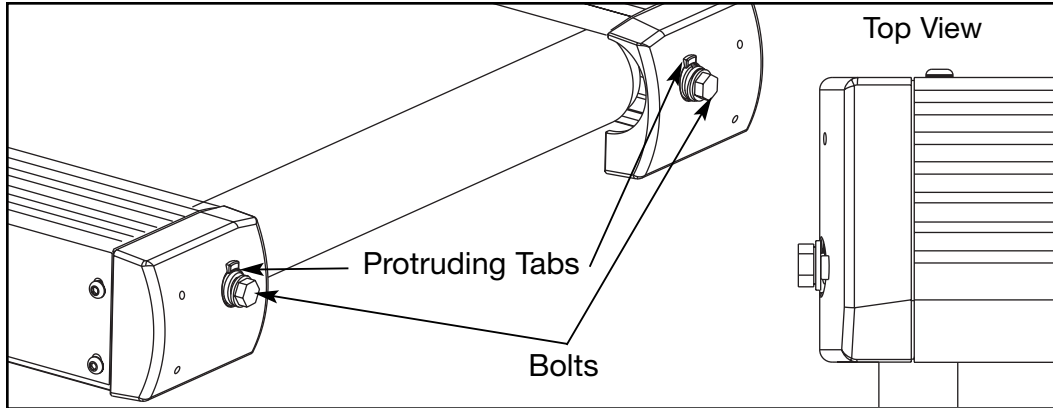

Figure 1
The running belt may become loose and slip on the drive roller with each foot plant. The 710T is equipped with visual indicators of belt tension. These are located at the rear of the treadmill where the two 3/4" bolts protrude from the plastic end caps. See Figure 1. These are designed to indicate if the running belt is at the proper tension to insure safe operation of the unit. If the belt has become loose, the silver colored washer located under the bolt will move out slightly from the protruding tab molded in the end cap. See the *Service Schedule* in this chapter to determine the minimum recommended checking of the belt tension.
- A.** Use a 3/4" wrench to turn each bolt clockwise until the silver washers are flush with the protruding the tab on the end caps. See Figure 1.